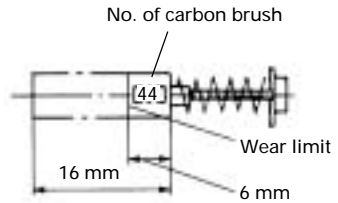

Fig. 9
2. Inspecting the carbon brushes (Fig. 9)